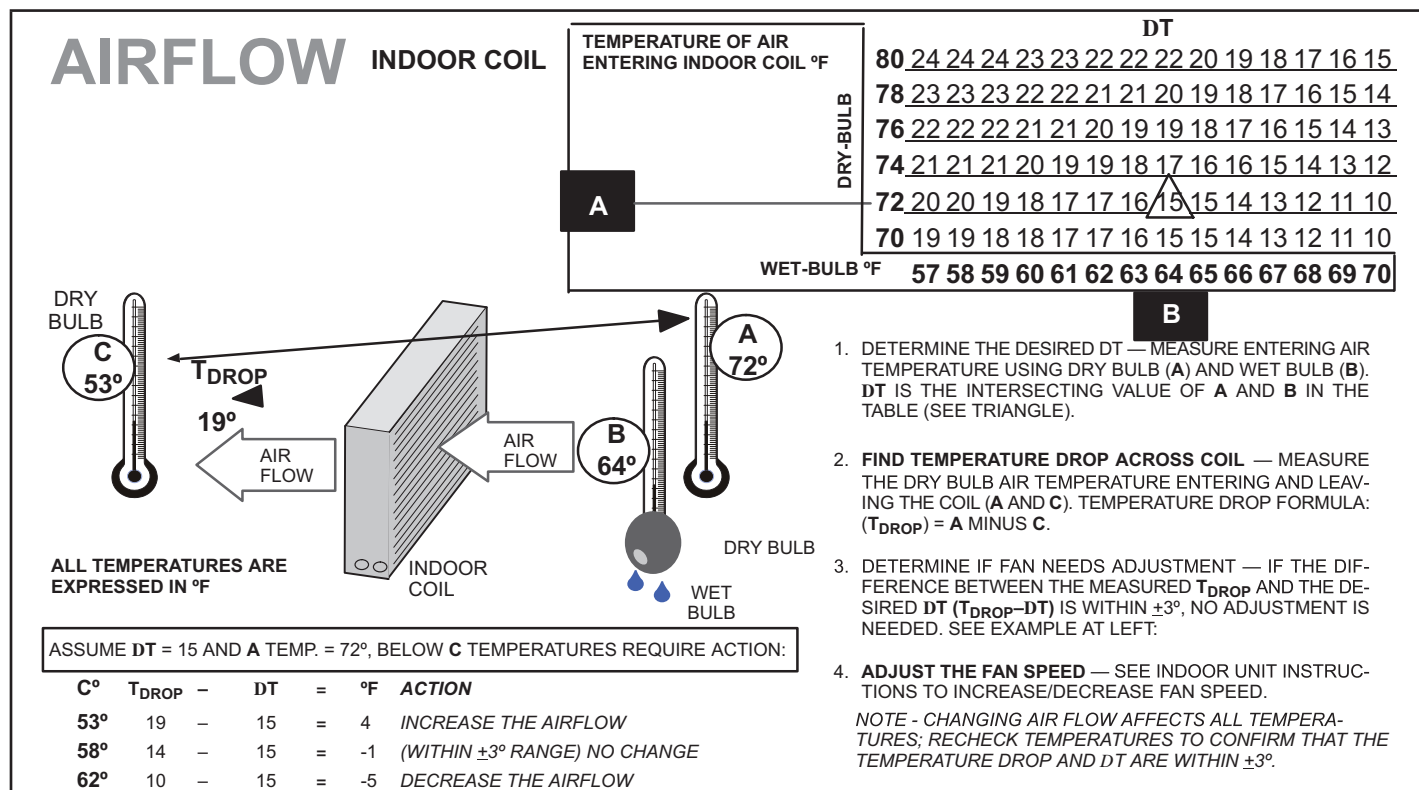

FIGURE 19. Checking Indoor Airflow over Evaporator Coil using Delta-T Chart
This system uses R-454B which operates at slightly lower pressures than HFC-410A. The field-installed liquid line filter drier is approved for use with R-454B. Do not replace any components designed for use with HCFC-22. Check airflow using the Delta-T (DT) process using the illustration in figure 19.